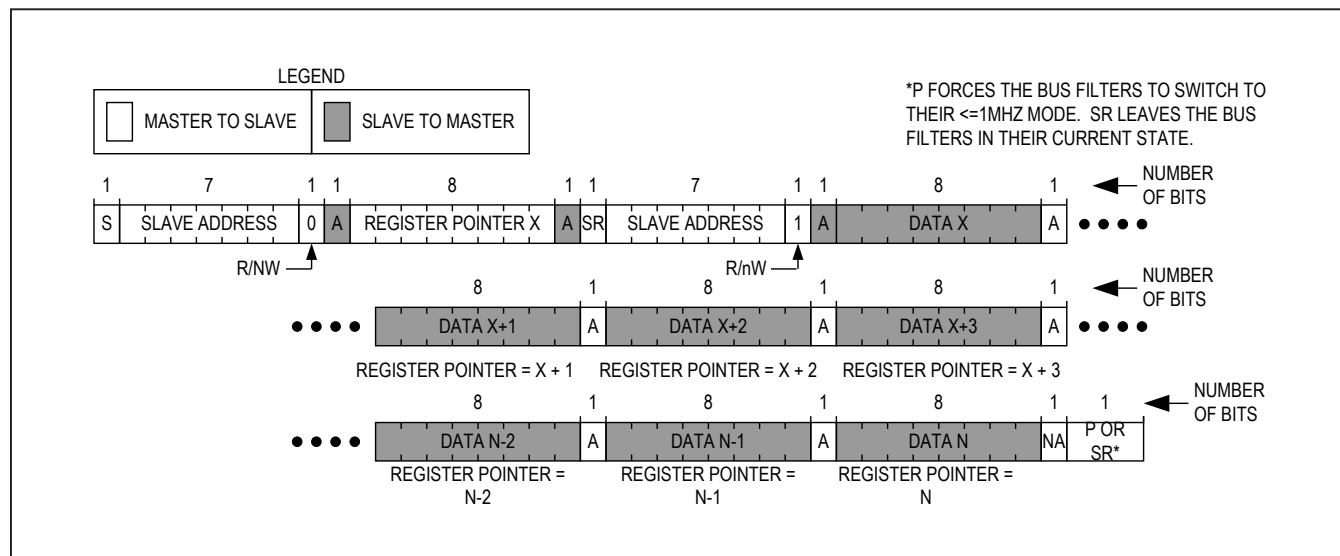

Figure 30. Reading Continuously from Sequential Registers X to N
Figure 30 shows the protocol for reading from sequential registers. This protocol is similar to the read byte protocol except the master issues an acknowledge to signal the slave that it wants more data: when the master has all the data it requires it issues a not acknowledge (nA) and a stop (P) to end the transmission.